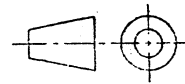

Figure P.4
4. A square base pyramid is cut by an inclined cutting plane p_x and horizontal plane p_4 as shown in figure p.4. Draw the lateral surface development of the lower portion of solid. [10]
4. Make a complete orthographic drawing of the solid pyramid cut by a plane as shown in Figure P.4. Find the true shape of the section and construct development of the solid below the cutting plane. [10]